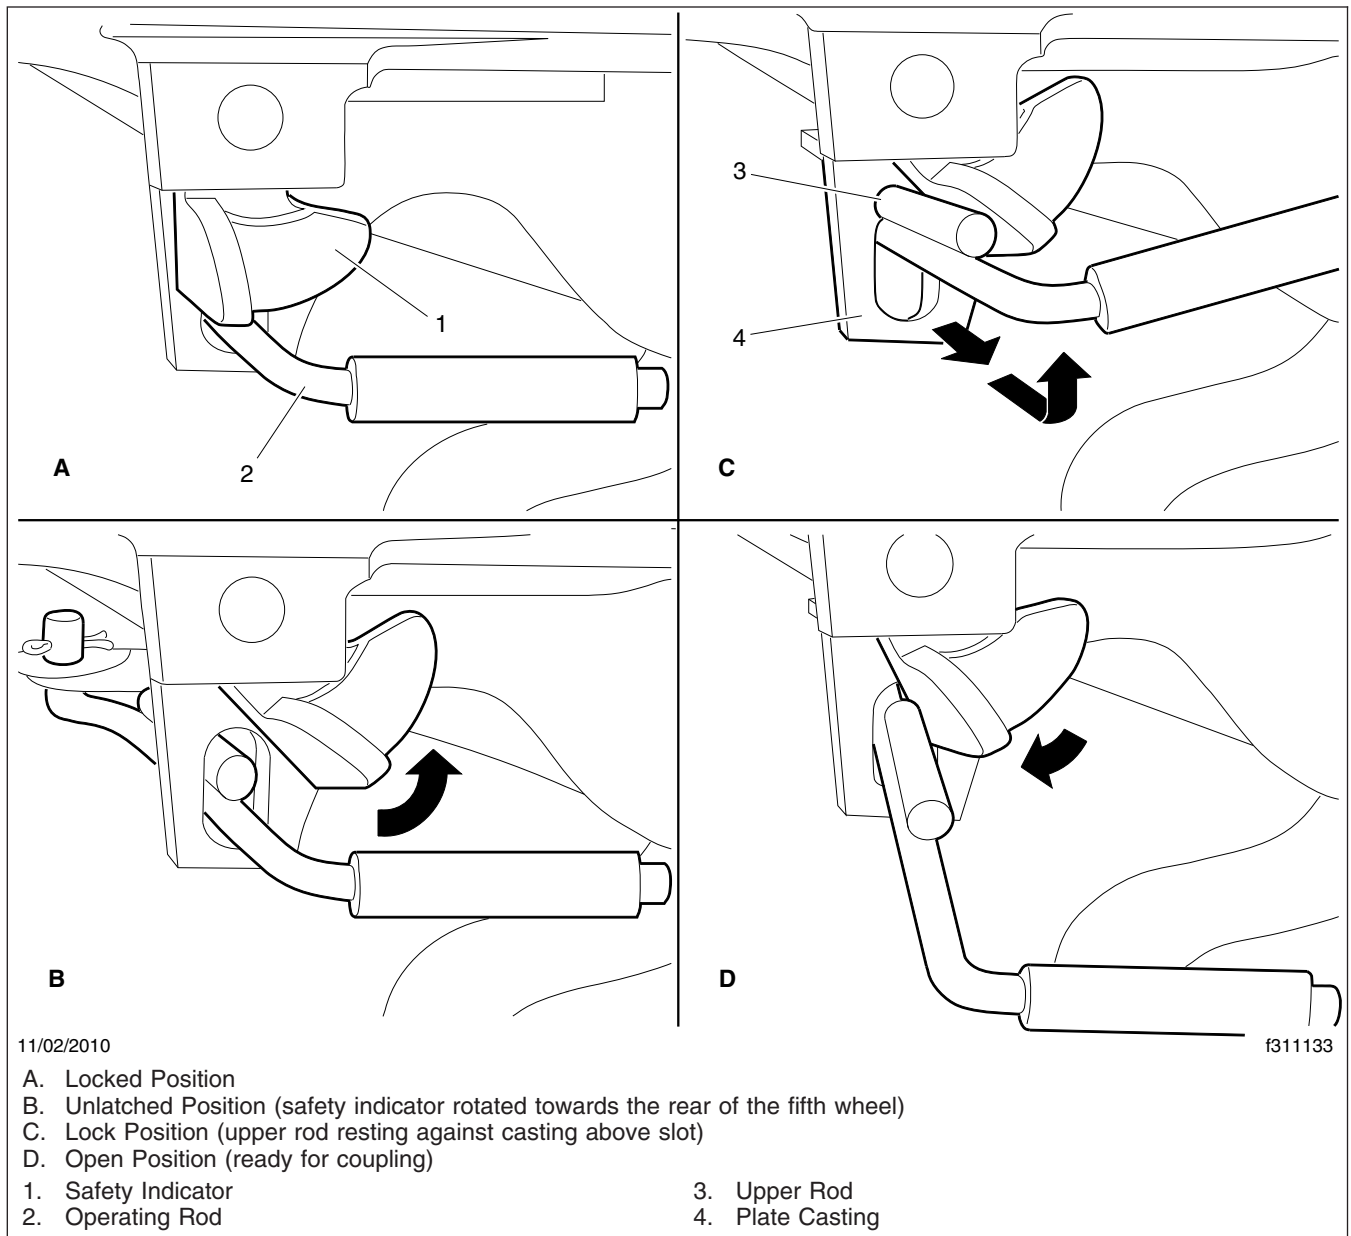

Fig. 17.10, Holland Kingpin Locking Mechanism
- 6.2 **Holland:** In the locked position the safety indicator swings freely over the operating rod. See Fig. 17.10, View A.
To unlock the mechanism, manually rotate the safety indicator toward the rear of the fifth wheel. See Fig. 17.10, View B.
Pull the operating rod out. When the upper operating rod shoulder is outside the slot, raise the handle and place the shoulder of the upper rod against the plate casting, above the slot. See Fig. 17.10, View C.
The fifth wheel is now in the lock position and is ready for uncoupling. As the tractor pulls away from the trailer the kingpin forces the jaw to rotate, contacting the lock. Continued rotation of the jaw forces the lock to move outward, and drops the upper rod back into the slot. See Fig. 17.10, View D. The wheel is now ready for coupling.